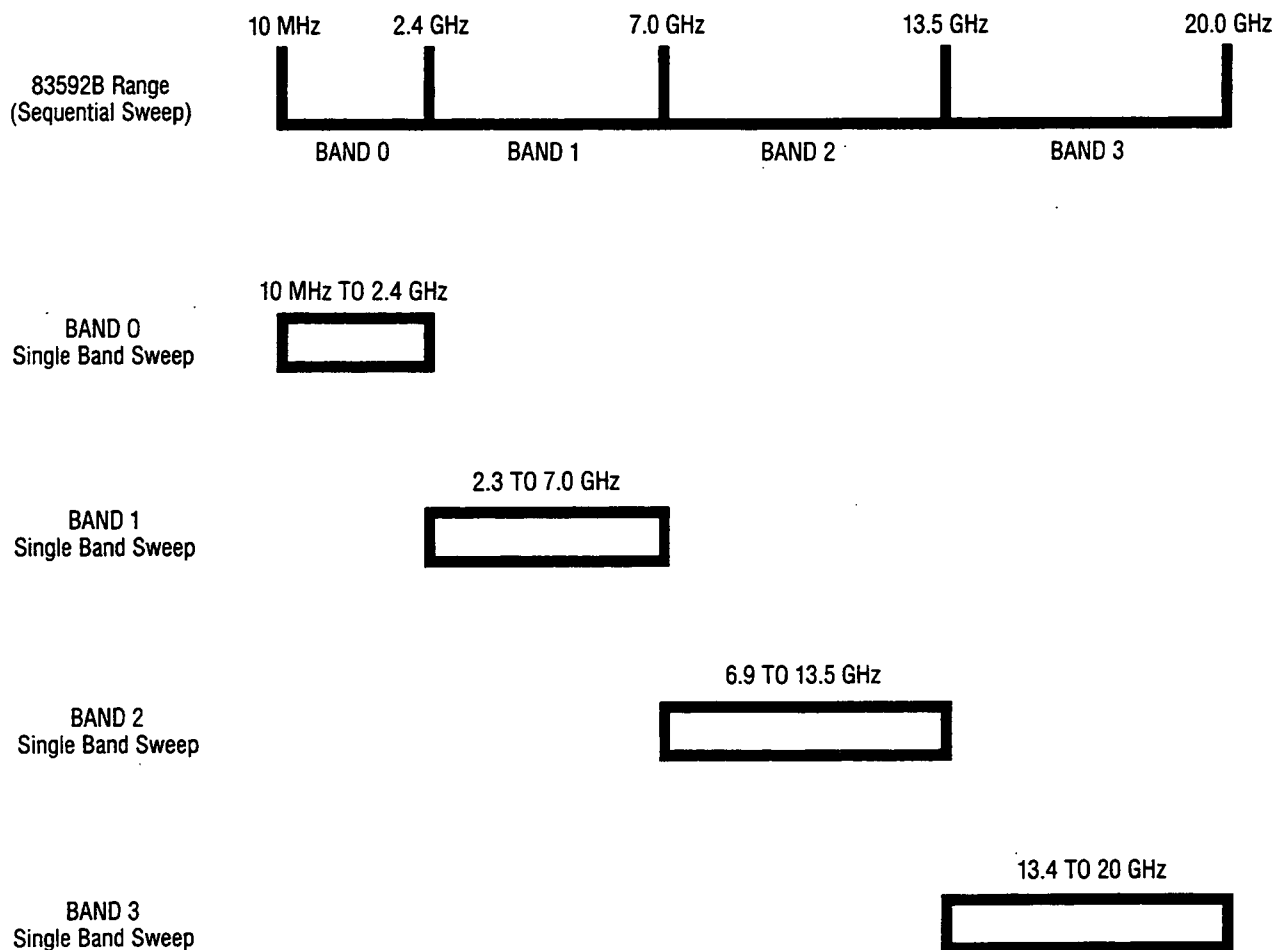

Figure 3-1. Bandswitching in Sequential and Single Band Sweep Modes
The HP 83592B provides an RF output of 0.01 to 20 GHz in four bands. When you sweep a range of frequencies larger than a single band, the switching between these bands is done automatically. Figure 3-1 illustrates the bandswitching points in the sequential and single band sweep modes. Note that if you select sweep frequencies carefully, you can avoid potential problems associated with bandswitching such as harmonics, sweep time, stability, or switching discontinuities.
Figure 3-1 is a simplified block diagram of the frequency tuning circuits in the HP 8350. The net tuning voltage results from the summation of the three DAC outputs. With this DAC configuration the START/STOP sweep mode is computed by the microprocessor into a center frequency (CF) DAC and the vernier DAC, and the sweep width is determined by the  $\Delta F$  DAC.